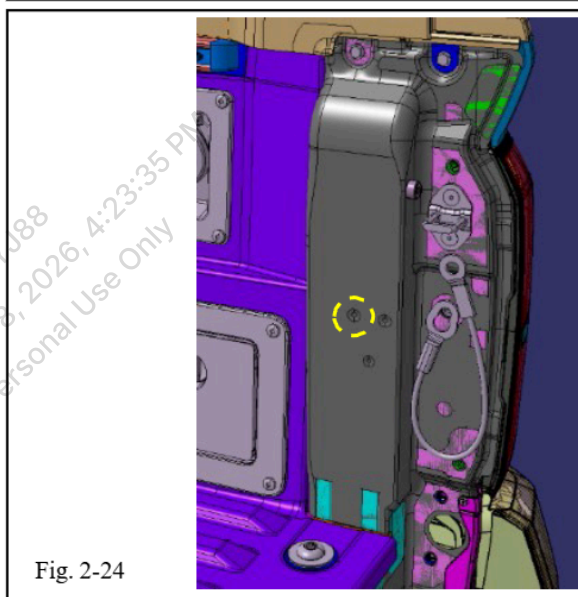

Fig. 2-24
- (z) Apply autobody sealant around the holes drilled in the D-pillar (Fig. 2-24). Be sure to apply on both sides of the panel for full coverage.